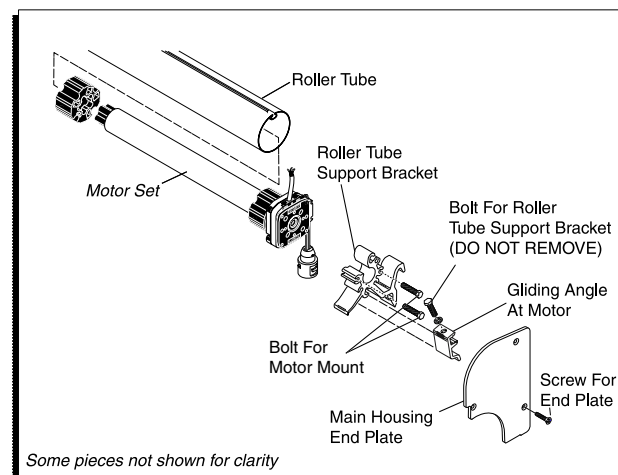

FIGURE 13
- 6) Remove both motor bolts (Figure 13,) which fasten the motor to the motor end bracket Take note and mark the slots from which the bolt were removed.
- 8) Enter into the vehicle, and locate the termination point of the motor cord. This point will be either inside junction box used for the awning switch, or will be inside the electronic box. Either can probably be found inside of an upper cabinet. The motor cord ca be identified as the WHITE cord bearing (4) wires. Take note of the point's from which each motor wire disconnects. See also wiring diagram. Disconnect complete motor cord.
- 10) Carefully pull old motor out of awning roller tube. (Figure 13) Pull motor cord out of hole in back of awning casing, and disconnect motor cord form the 'pig tail'.
- 1) remove the right hand/front awning end plate and lead rail end plate by removing the (5) Phillips screws, which secure them to the awning casing.
- 2) Place one person in front of the rear portion of the awning. Place a second person in front of the front portion of the awning. The third person will perform the following: Remove both motor bolts which fasten the motor to the motor end bracket (Figure 13). Take note and mark the slots from which the bolts were removed. The awning will now begin to extend. The first and second persons should allow the awning to extend about 3 ft. At this point, each arm must be taped. Or strapped, about 1 ft. in from the 'elbow', such that the arms are locked into their position. These arms must be securely fixed against their own spring tension, such that the awning is prevented from opening further.
- 1) With the new motor in hand, align the notch in the black drive-disk at the far end of motor with the indentation in the awning roller tube. Slide motor all the way in. likewise, turn the black disk at the front of the motor such that its notch also lines up with the indentation in the roller tube. (See Figure 13.)
- 6) Adjust the roller tube/ motor assembly such that the threaded holes in the metal bracket of the motor line up with the (2) marked hole locations of the motor end bracket.